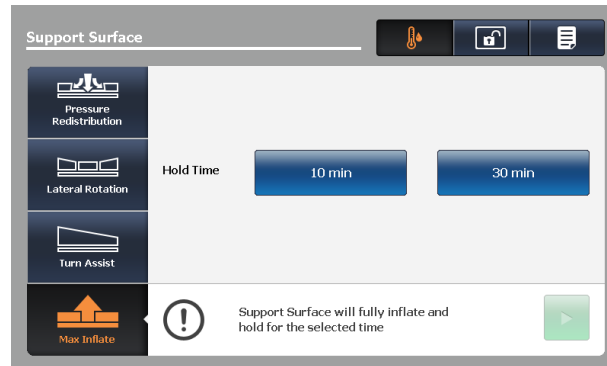

Figure 66: Max inflate screen
1. Tap **Max Inflate** (Figure 66 on page 73).